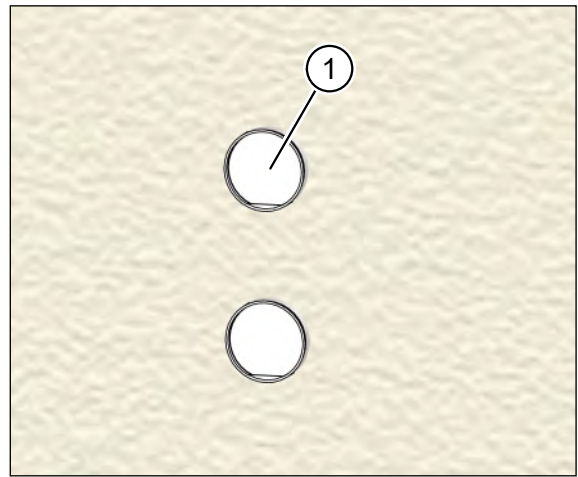

Fig. 27: Installation kit plastered on the outside
- ▶ Remove the two protective sleeves (item 1 in Fig. 27).